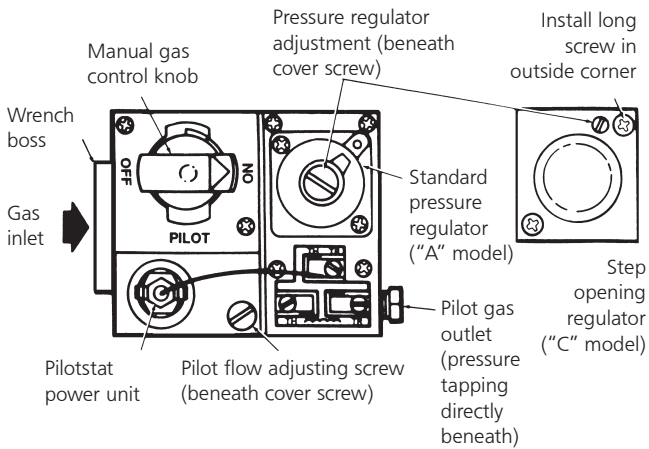

Figure 8. Top view of standard capacity gas control.
- Remove pilot adjustment cover screw. Refer to Figure 8.